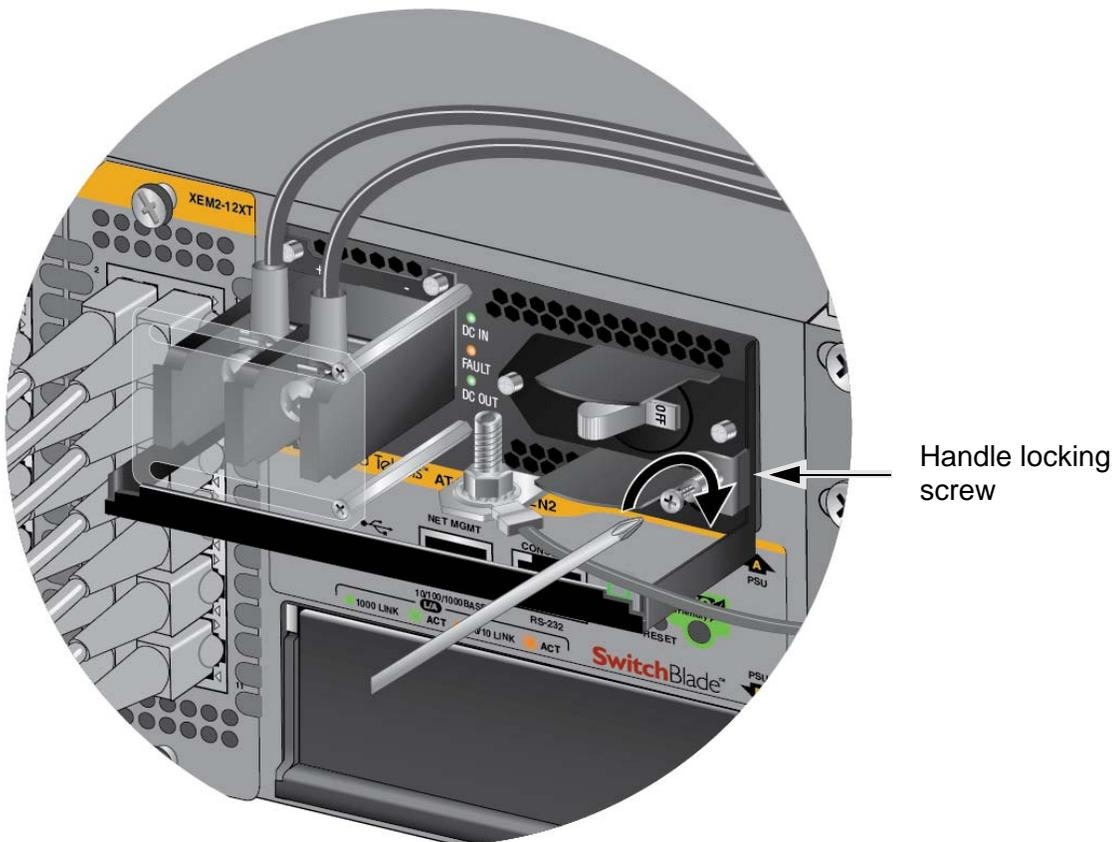

Figure 86. Tightening the Handle Locking Screw
9. With a #2 Phillips-head screwdriver, tighten the handle locking screw to secure the power supply to the chassis. See Figure 86 on page 138.